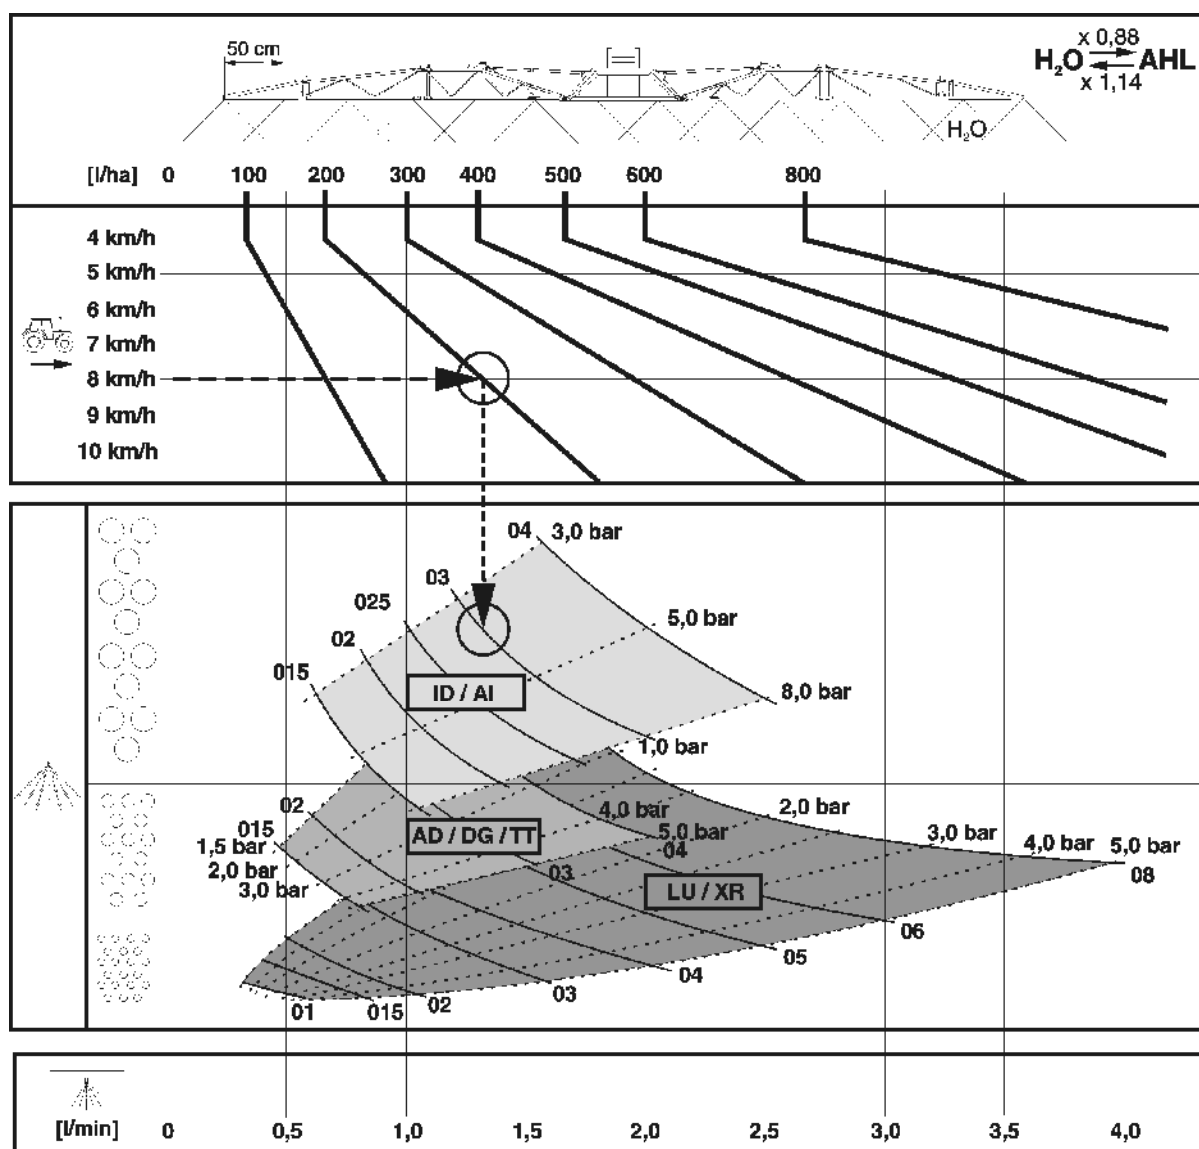

Fig. 156
- Fig. 156 helps with the selection of the right nozzle type. The nozzle type is determined by